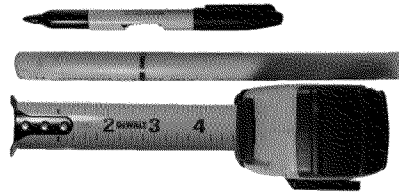

Figure 3. PE Stab Depth Measurement
- 2.9 Using a soft black felt tip pen, mark the PE pipe at the stab depth measurement (Figure 3).